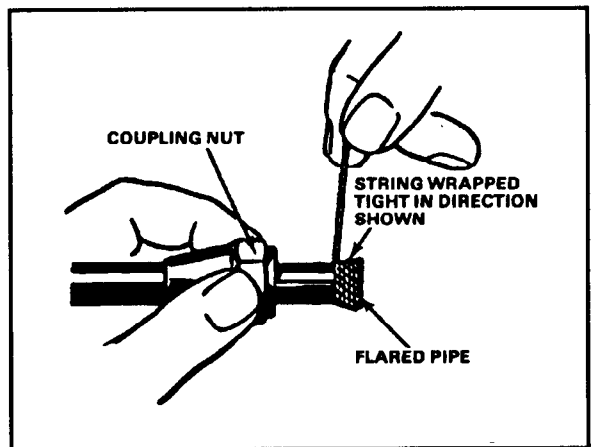

FIGURE 22-17. Leaking Fuel Line Repair.
**Leaking Line Fitting.** Leaks at fuel line fittings can develop from the vibrations caused by cross-country operation and may result in an extremely dangerous condition if not discovered and corrected promptly. To correct this deficiency, unscrew the coupling nut, wind a piece of string clockwise behind the flare, slide the coupling nut over this temporary gasket, and tighten with a wrench (Figure 22-17).